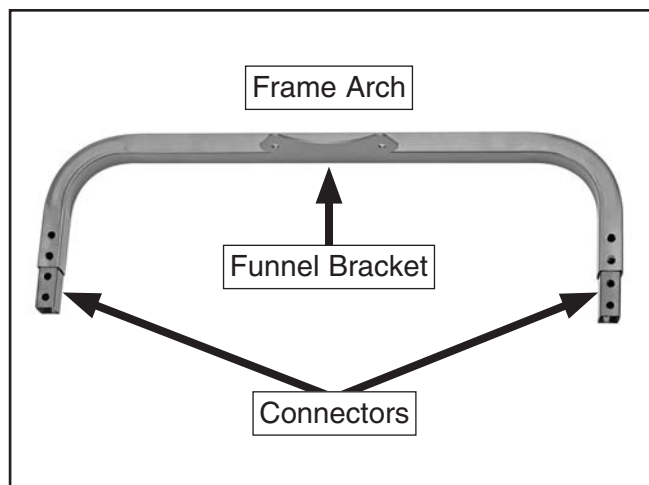

Figure 6. Connectors installed in frame arch.
7. Locate (1) frame arch (see **Figure 6**) and install (2) connectors. Funnel bracket should be facing up, as shown below.